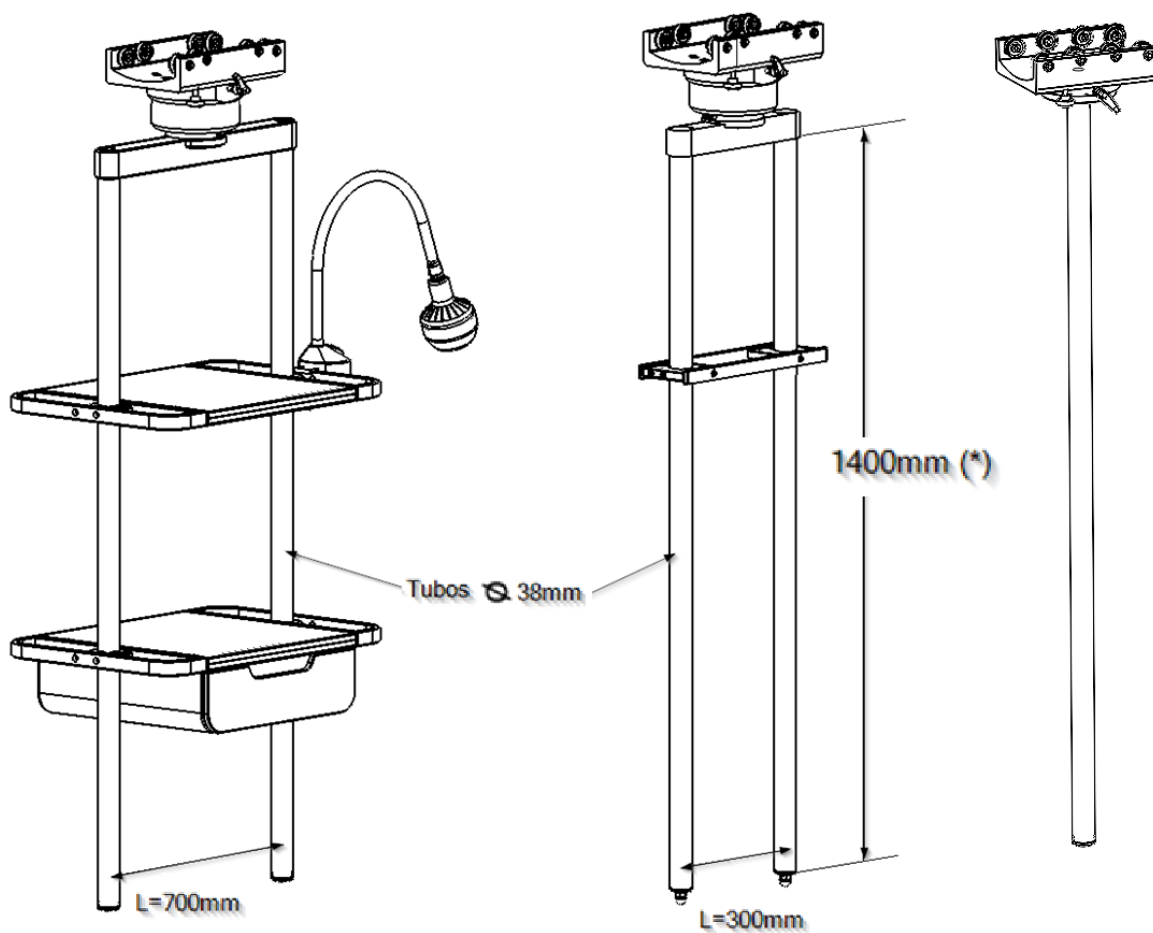

Fig. 18 Detail of trolleys for ARES
A movable element that moves along a defined length within a section of ARES with one or two 38 mm diameter structural tubes on which other accessory elements can be supported. The tube may be positioned on the axis of rotation or on a trapezoid at a fixed distance. The distance between the tubes (L) can be 300mm, 500mm and 700mm. Figure 18 shows the variant with a 300mm and 700mm trapeze and the variant with the tube on the axis of rotation.
The example shows a technical rail assembly on the structural tubes (middle picture in figure 18) and two trays, one with an individual drawer unit (left picture in figure 18). The image on the right shows the trolley with a single tube on the axis of rotation.
The maximum load capacity is the maximum weight that can be supported by the arm or set of arms, in the case of the example shown in Figure 18 a configuration with one extension arm (2) and one motorised arm (3) is shown. The maximum load is counted as applied on the vertical axis about which the service head will rotate.